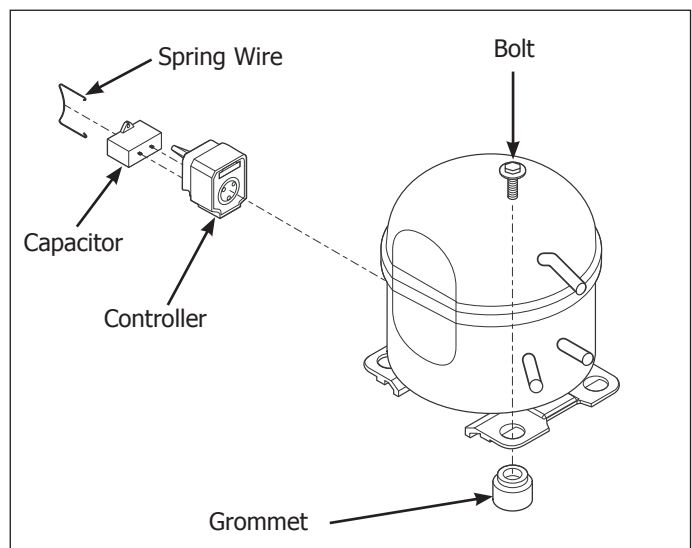

Figure 5-26. Compressor Components
6. Using a 7/16" socket, remove the (4) bolts, one in each corner, holding the compressor to the base. (See Figure 5-26)